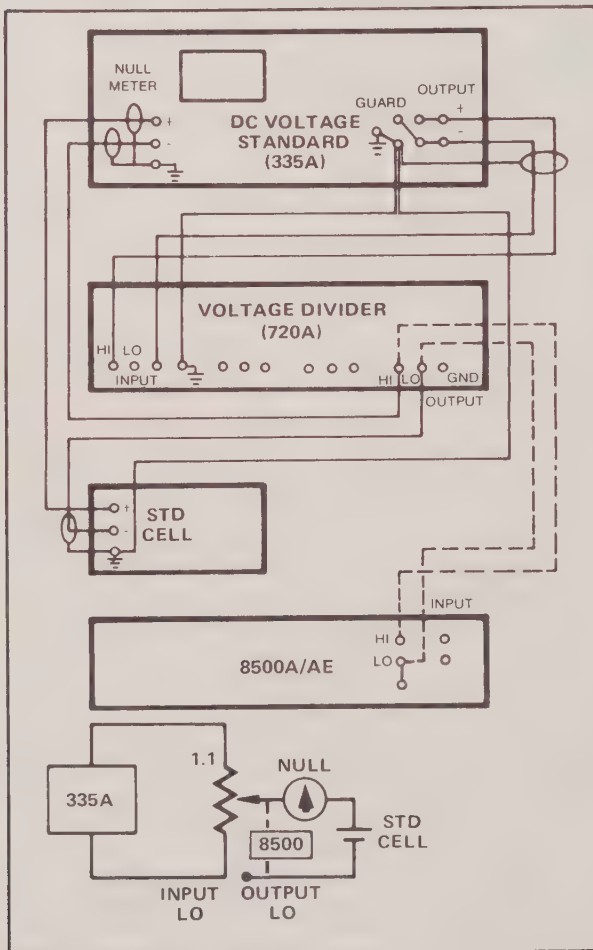

Figure 4-1. Connections For Low Range DC Voltage Tests
1. Connect the equipment shown with solid lines in Figure 4-1. Do not connect the 8500A/AE at this time.
5. Disconnect the leads at the Voltage Divider output terminals and connect the 8500A/AE as shown with the broken lines in Figure 4-1.